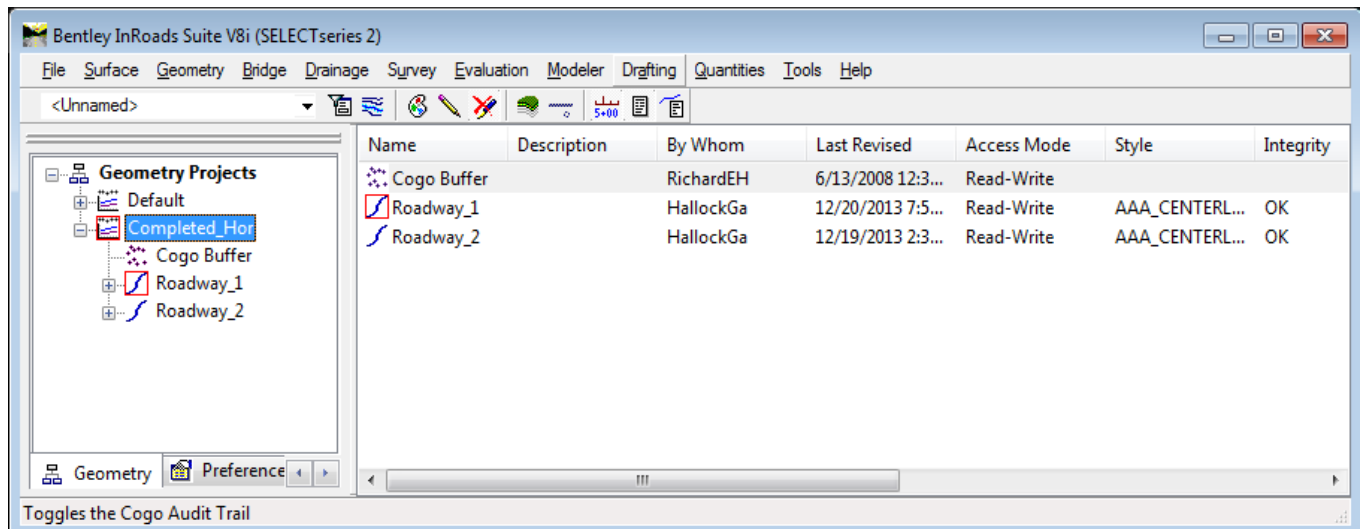

Figure 1-3 InRoads Interface
The left window, the Workspace Bar, contains a listing of active data. In Figure 1-3 the Geometry Project information is listed. The red square near the + symbol indicates the active Geometry Project. A right mouse click on geometry listed in the Geometry window will activate a shortcut dialog with options to Save, Copy, set Active, etc. Tabs at the bottom of the window allow users to toggle to the different data files types (i.e. Surface Data, Template Library File etc.) that are loaded with the project.
The right window displays information about data contained in the data file type (i.e. Geometry Projects). In Figure 1-3 there are two (2) horizontal alignments listed and the COGO buffer. Again,